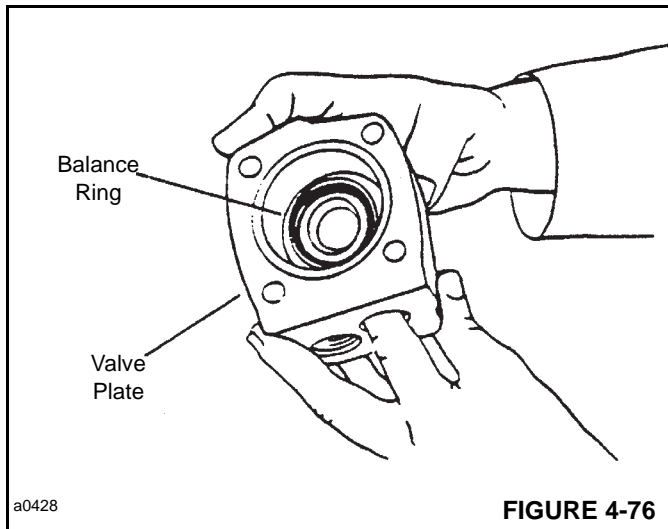
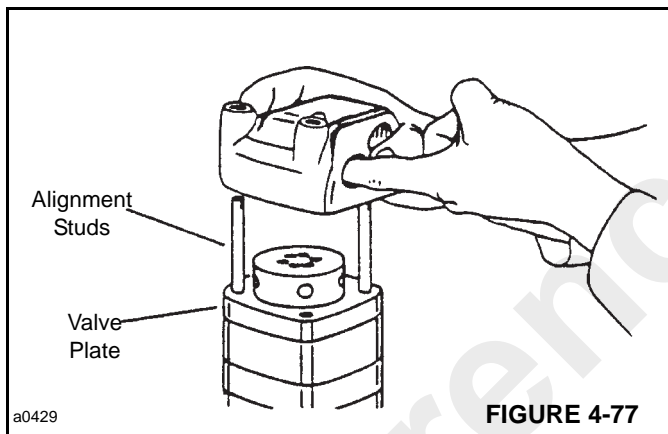

FIGURE 4-76
FIGURE 4-77
20. Align pin notches in balance ring (14) with pins in bore of valve housing (19). Install balance ring assembly in the valve housing.
21. Insert fingers through port of valve housing (Figure 4-76). Apply pressure to side of balance ring. Hold the ring in place until the valve housing is in place against the valve plate. See Figure 4-77.